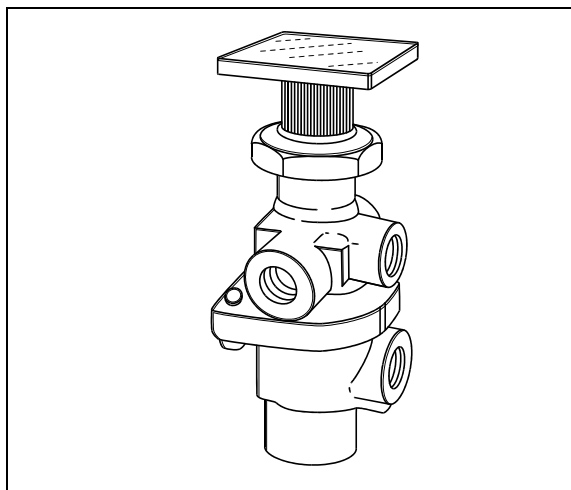

FIGURE 10: PP-1
2. Access this valve by tearing out the finishing panel, which holds the controls in place (Fig. 10).